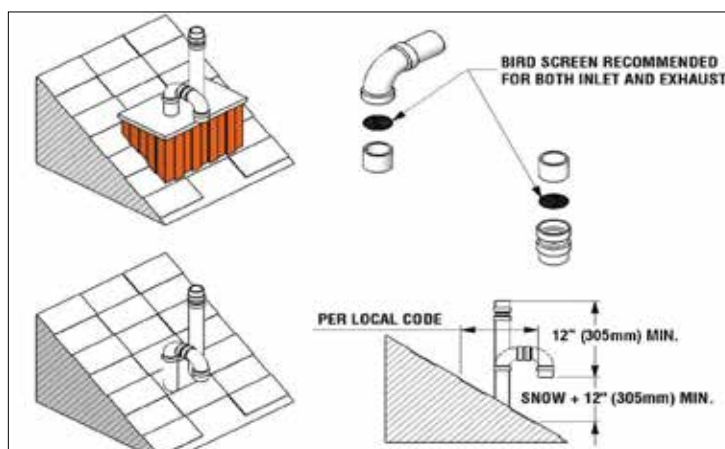

Figure 6: Rooftop vent terminal configurations
- Rooftop, two pipe, direct vent configurations, including typical clearance requirements, are shown in Figure 6.
- The intake air pipe is not typically drained, so it must be terminated with a down-turned elbow (see Figure 6).
It is extremely important to maintain at least the minimum separation of exhaust vent termination from boiler intake air as illustrated in figures 6, 7 and 13. Failure to do so can result in a dangerous situation where exhaust gasses are re-ingested with combustion air. Damage to the boiler can result from a failure to maintain these separations. Third party vent termination kits and concentric wall penetration kits that do not maintain these minimum separations shall **NOT** be used. Improper installation will void the warranty. Do not use proprietary InnoFlue or PolyPro sidewall terminals without specific written approval from IBC.